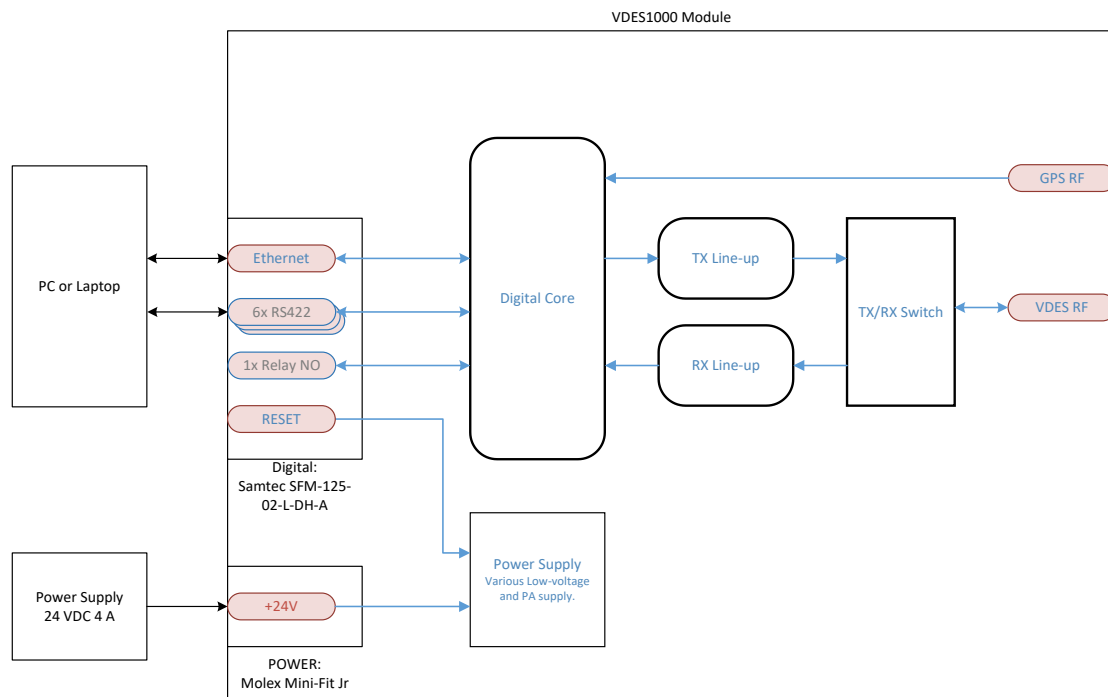

Figure 3 VDES1000 Module Test Setup
A block diagram of the setup to test a VDES1000 module is shown in Figure 3. This is a simple test setup for RF testing, using a signal generator or spectrum analyser connected to the VDES RF port. This is the female SMA connector. Ensure that any test equipment connected is sufficiently robust or protected to survive the RF power output of the VDES1000 transmissions. The use of a 40dB RF attenuator is recommended during testing.
1. Connect the VDES1000 module as shown in Figure 3.